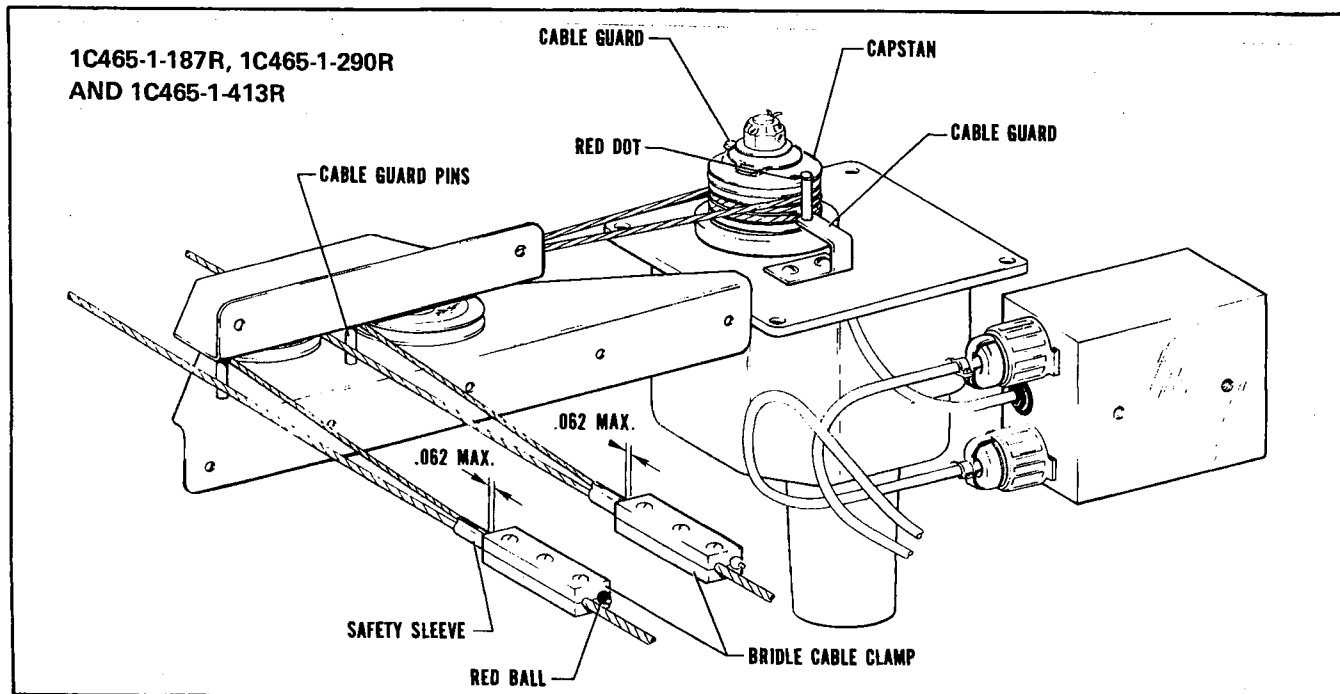

Figure 3-27. Roll Servo Installation, PA-31, PA-31-350 and PA-31P
3-51. INSTALLATION OF ROLL SERVO. (PA-31, PA-31-350 and PA-31P.) (Refer to Figure 3-27.)
- e. REFER TO FIGURE 3-13 AND CHECK THAT THE CONTROL CABLE TENSION IS ADJUSTED TO 35 ± 2 POUNDS PRIOR TO ATTACHING THE BRIDLE CABLE CLAMPS. Ascertain area on cable where clamp attaches is clean, dry and free of all lubricants and anti-corrosive additives. Attach the bridle cable to the aileron control cables. The bridle cable is drawn around pulleys to the aileron control cables and attached with clamps at the previously painted locations on the control cables. The end of the bridle cable with the red ball attaches to the left aileron cable. (Refer to Figure 3-27.) (Should the aileron cables not be painted, position the control wheel in neutral and the bridle cable pin, installed in the capstan, with the red dot aligned as shown in Figure 3-27.) Adjust the bridle cable clamps so that the bridle cable tension (Y) as shown in Figure 3-13 is 10 ± 1 pounds. Check the control cable tension forward of the bridle cable clamps and adjust, if necessary, to obtain 35 ± 2 pounds. If aileron cables require adjustment, it will be necessary to readjust the bridle cable tension to 10 ± 1 pounds. Torque the bridle cable clamp screws to 15 ± 1 inch-pounds. (When control wheel is in neutral position, bridle cable clamps should be parallel.)